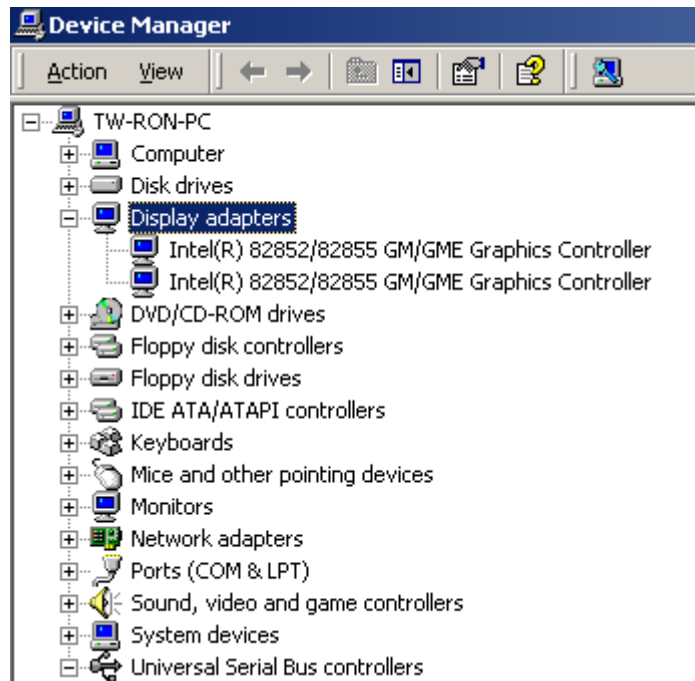

Figure 7-7: Expand the Display Adapters Category
**Step 5:** Expand the **Display Adapters** category (Figure 7-7). Right click the adapter and select **Properties**.